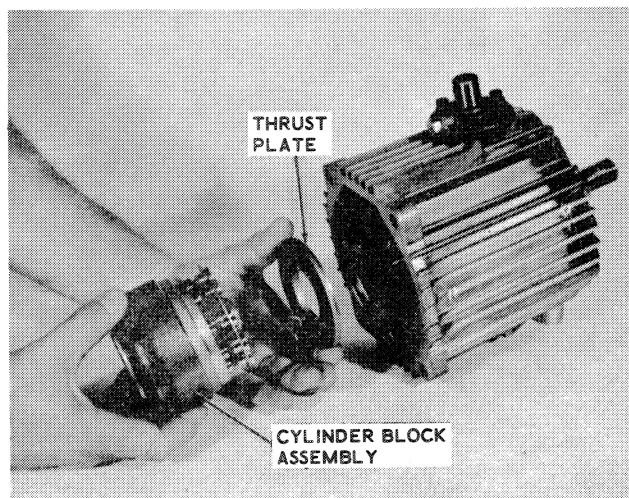

Figure 5
2. Remove the thrustplate from the swashplate using a stiff wire hook. See Figure 5. Place the housing in a disassembly support which will allow pounding without end loading the pump shaft. Pounding without taking this precaution can do irreparable damage to the main pump bearing. With the housing well supported as below, use a drift pin punch to drive out the roll pins on both sides of the swashplate.